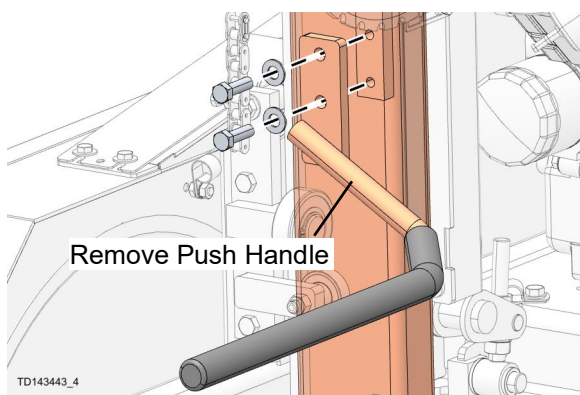

FIG. 4
6. Remove push handle and set aside. See FIG. 4